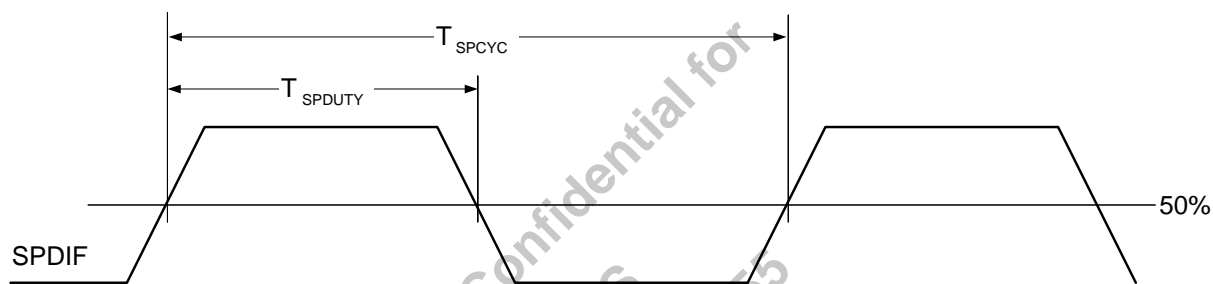
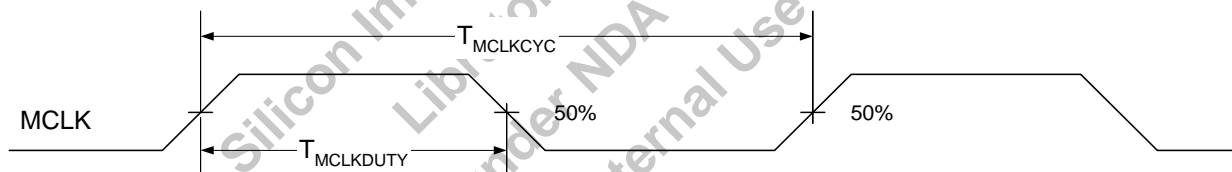

Figure 5.7. S/PDIF Output Timing
Figure 5.8. MCLK Timing
1. Proportional to unit time (UI), according to sample rate. Refer to the S/PDIF Specification.
2. Refer to Figure 5.7 and Figure 5.8 on page 24.